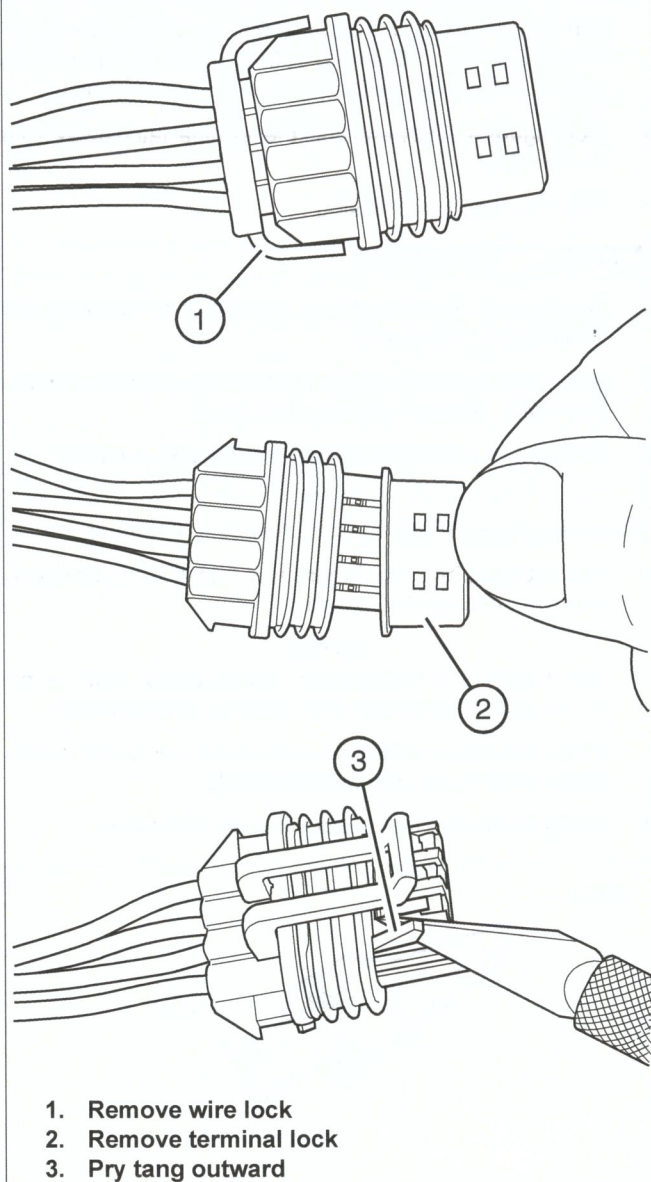

Figure A-4. Delphi GT 150 Sealed Connector: Removing Socket Terminals
1. **Connectors with wire lock:** See Figure A-4. Remove the wires from wire lock.
- a. Pry loose one side of wire lock (1) from socket housing.
2. Remove terminal lock (2) from housing.